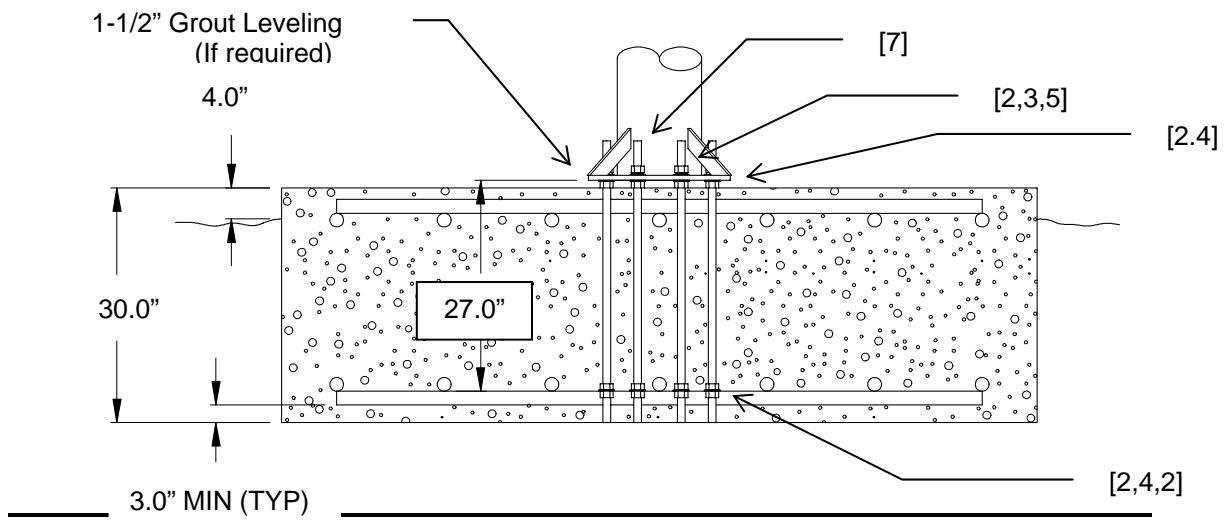
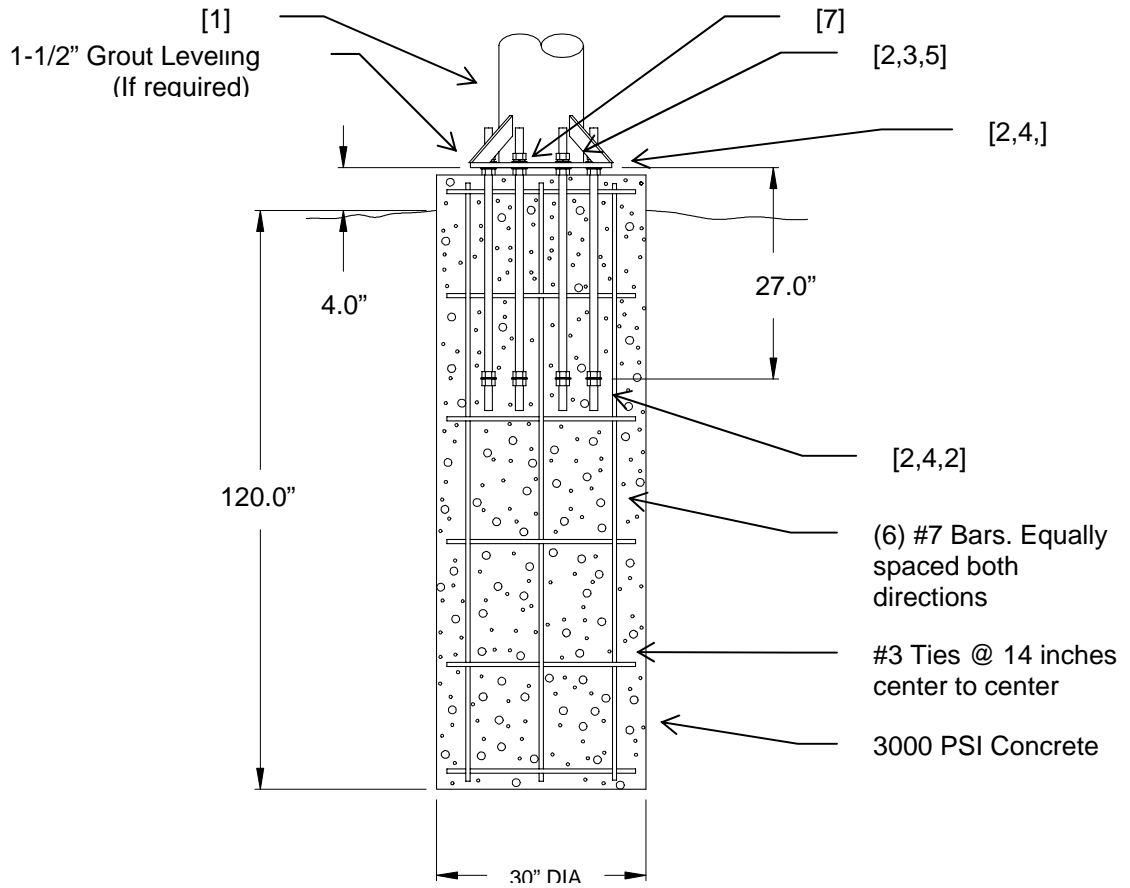

Figure 1.
Figure 2.
Figure 1 shows a suggested Pad Foundation and figure 2 shows a suggested Pier Foundation. Both foundations utilize General Dynamics' Pedestal Mount. To install the Pedestal Mount foundation, follow the steps below.
1. Install one [1] 1-8 hex nut and one [1] 1" flatwasher (items# 2,4) onto the anchor rod (item# 7), then insert the anchor rod into one of the holes in the plywood template (item# 6) and install another 1-8 hex nut and 1" narrow flatwasher (item #3). Repeat this procedure for the remaining anchor rods. This will keep all the anchor rods in the straight and proper orientation when the concrete is poured. Next, install two [2] 1-8 hex nuts and one [1] flatwasher (items# 2,4) on the other end of each anchor rod. See figures 1 and 2.